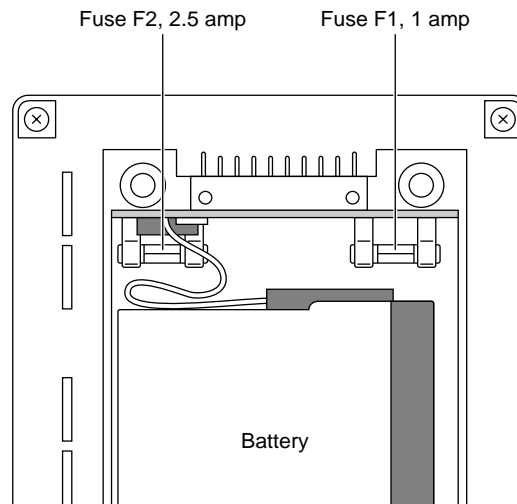

Figure 6-3: N-3000 Fuses
2. Replace the fuses as shown in Figure 6-3 with an equivalent replacement.